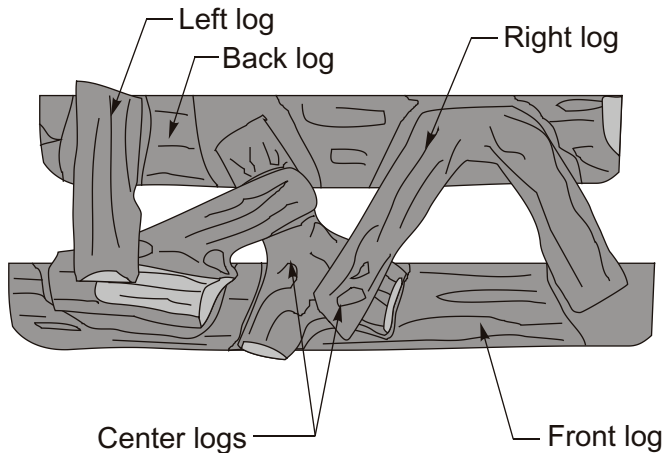

Figure 13. Proper placement (top view).
5. Place the top logs in position as shown in figures 13 and 14.